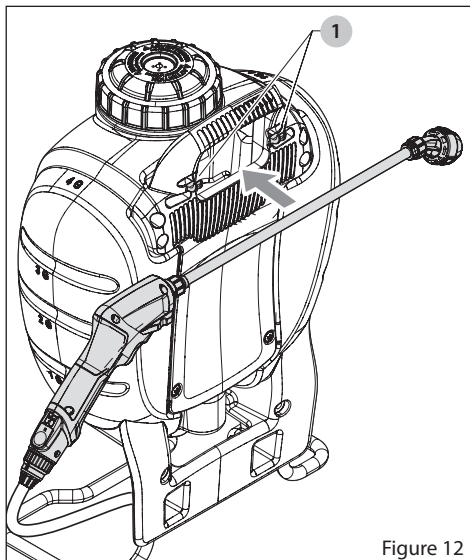

Figure 12
There are horizontal wand storage clips (1) attached to the back of the tank which the wand can be secured with. The horizontal wand clips help with storage as it reduces the space needed around the sprayer. See *Figure 12*.